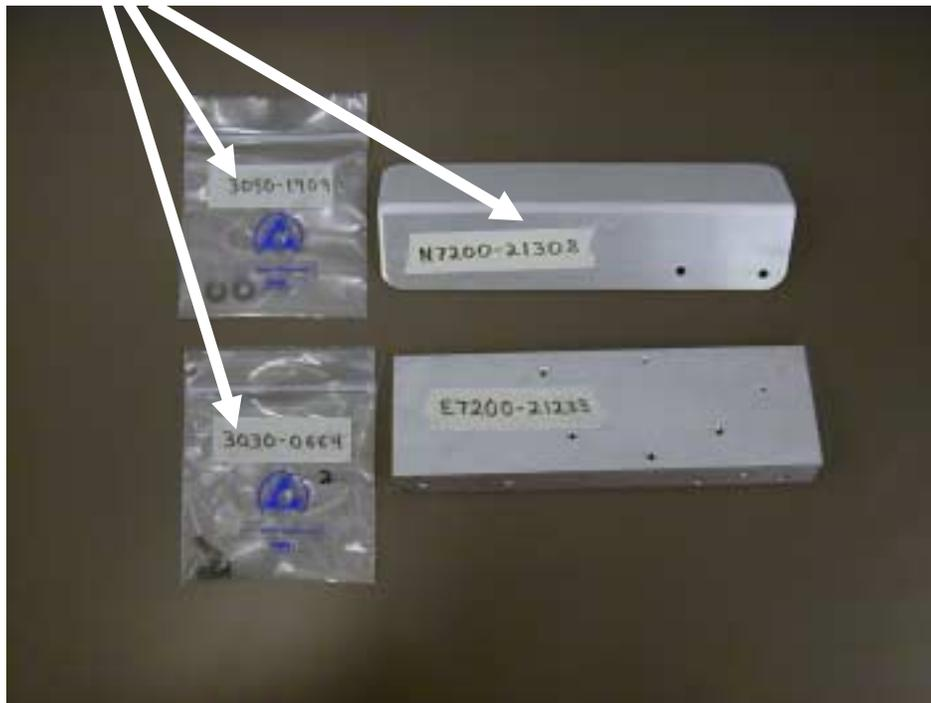

Figure 9.
15. Mount the new E-Chain Bracket Cover (Part # N7200-21308) on top of the E-Chain, using the supplied 2 screws (Part # 3030-0664) and 2 washers (Part # 3050-1909) (see Figure 9).